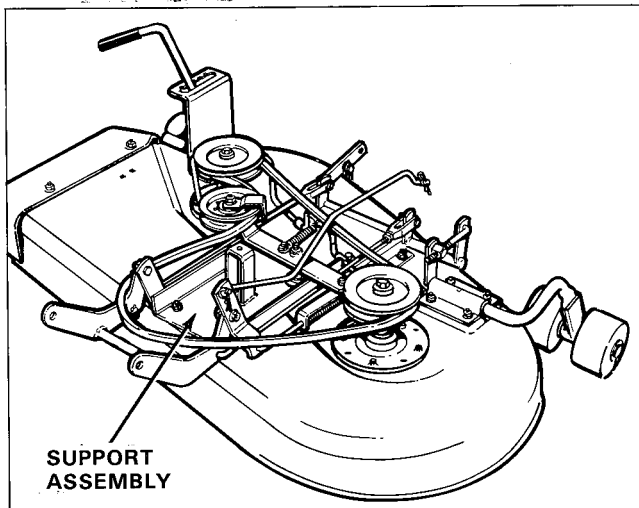

Figure 1. Mower Support Assembly,
2. For mowers with manufacturer's number 1690274 or 1690627 only, remove the eight carriage bolts, lockwashers and nuts which hold the support assembly to the mower deck (figure 1). (This will provide clearance to remove baffle hook screw in next step.)